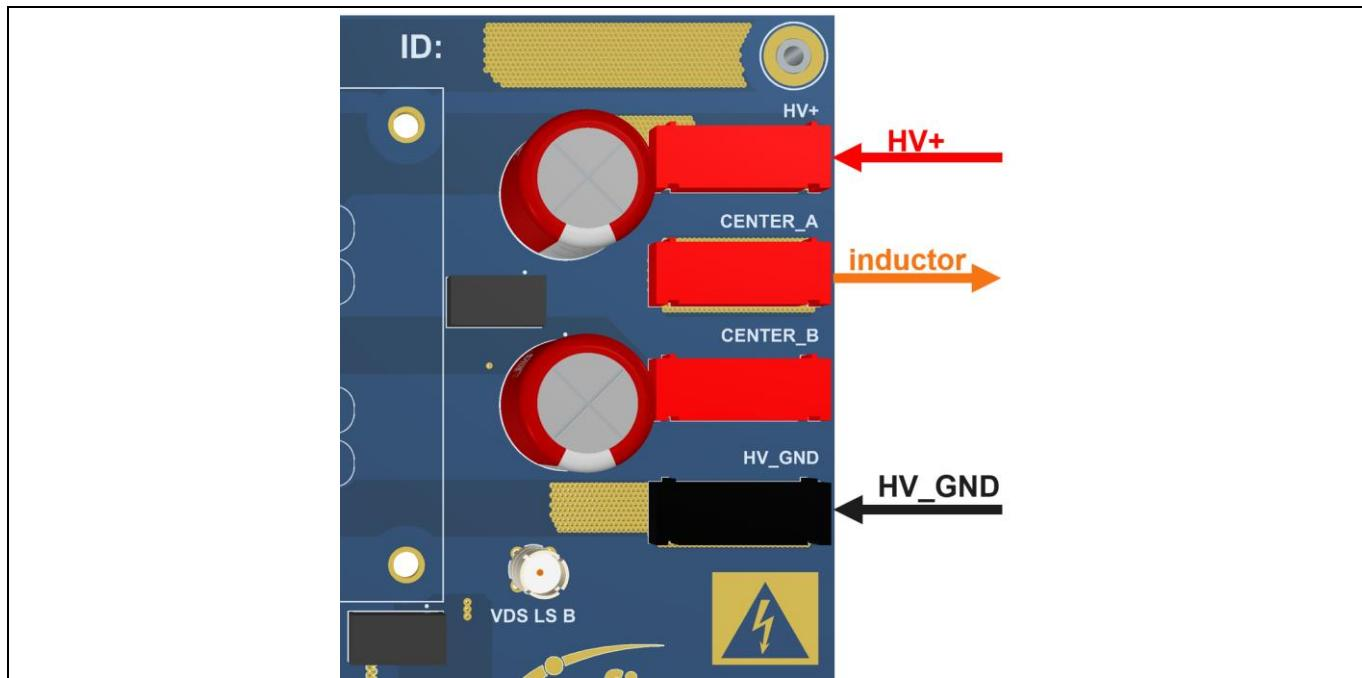

Figure 7 Cabling on HV terminals for single-/double-pulse testing utilizing half-bridge “A”
- Connect the load inductor and the HV voltage supply to the PCB via the banana jacks as shown in Figure 7